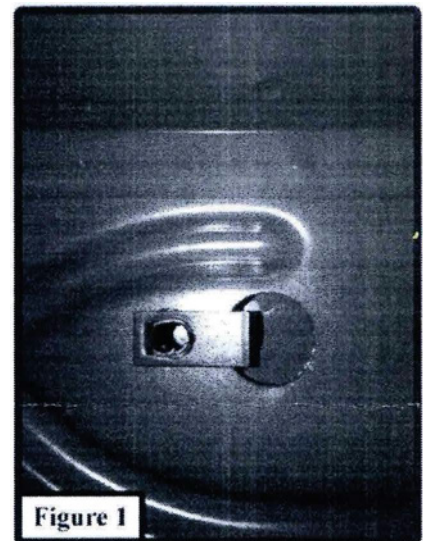

Figure 1
- STEP 3:** If your vehicle requires the use of clips install them now. This requires the removal of a plastic body plug. Using a screwdriver remove the plug and install one of the supplied clips as seen in Figure 1.